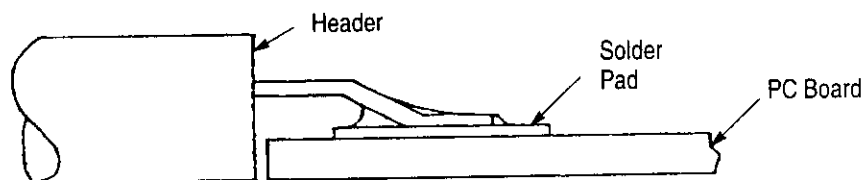

Figure 10
AMP INFOPORT Connectors can be soldered using wave, vapor phase (VPR), double sided non-focused infrared reflow processes (IR) or equivalent soldering techniques. The temperatures and exposure time shall be within the ranges specified in Figure 9. We recommend using SN60 or SN62 for these connectors. Refer to Figure 10 for an illustration of acceptable solder joints.